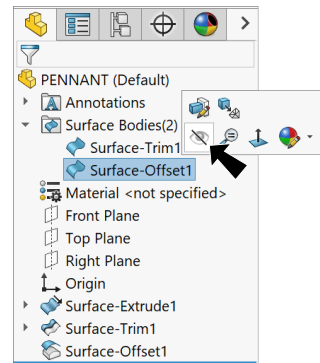

Fig. 17
Step 1 **Hide Surface-Offset1** . To hide, expand Surface Bodies  folder in the Feature Manager. Click Surface-Offset1  and **Hide**  on the context toolbar, **Fig. 17**.